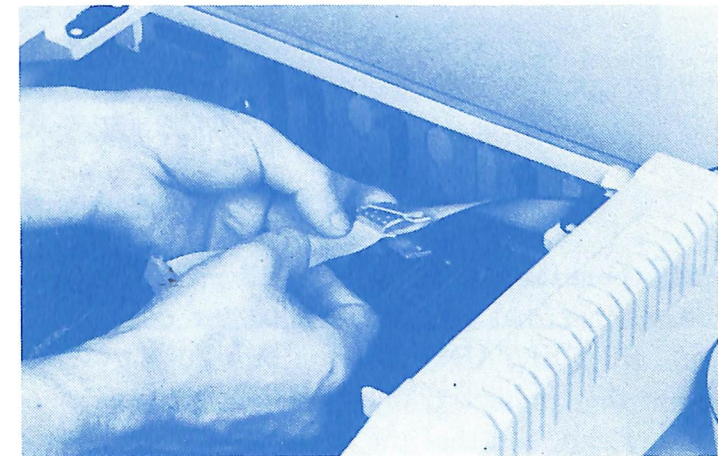

FIGURE 4 Placing the Clamp over the Metal Flap
- G) Place the cable and folded-over metal flap into the clamp so that the flap is pressed against the cable and positioned between the two sides of the clamp. (You may need to spread the clamp open slightly to allow room for the flap. See Figure 4.)